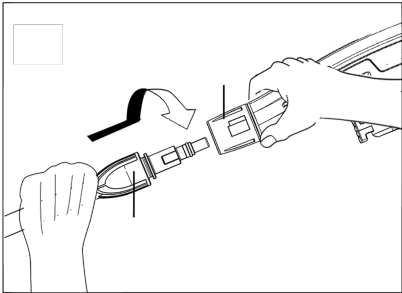

Figure 4: How to connect the Lance (5) with the Trigger Gun (1).
The Lance (5) has a bayonet fitting that must be inserted into the Trigger Gun (1). Align the two pieces and press the Lance (5) into the Trigger Gun (1) and turn clockwise to lock the two pieces together, as shown in Figure 4.